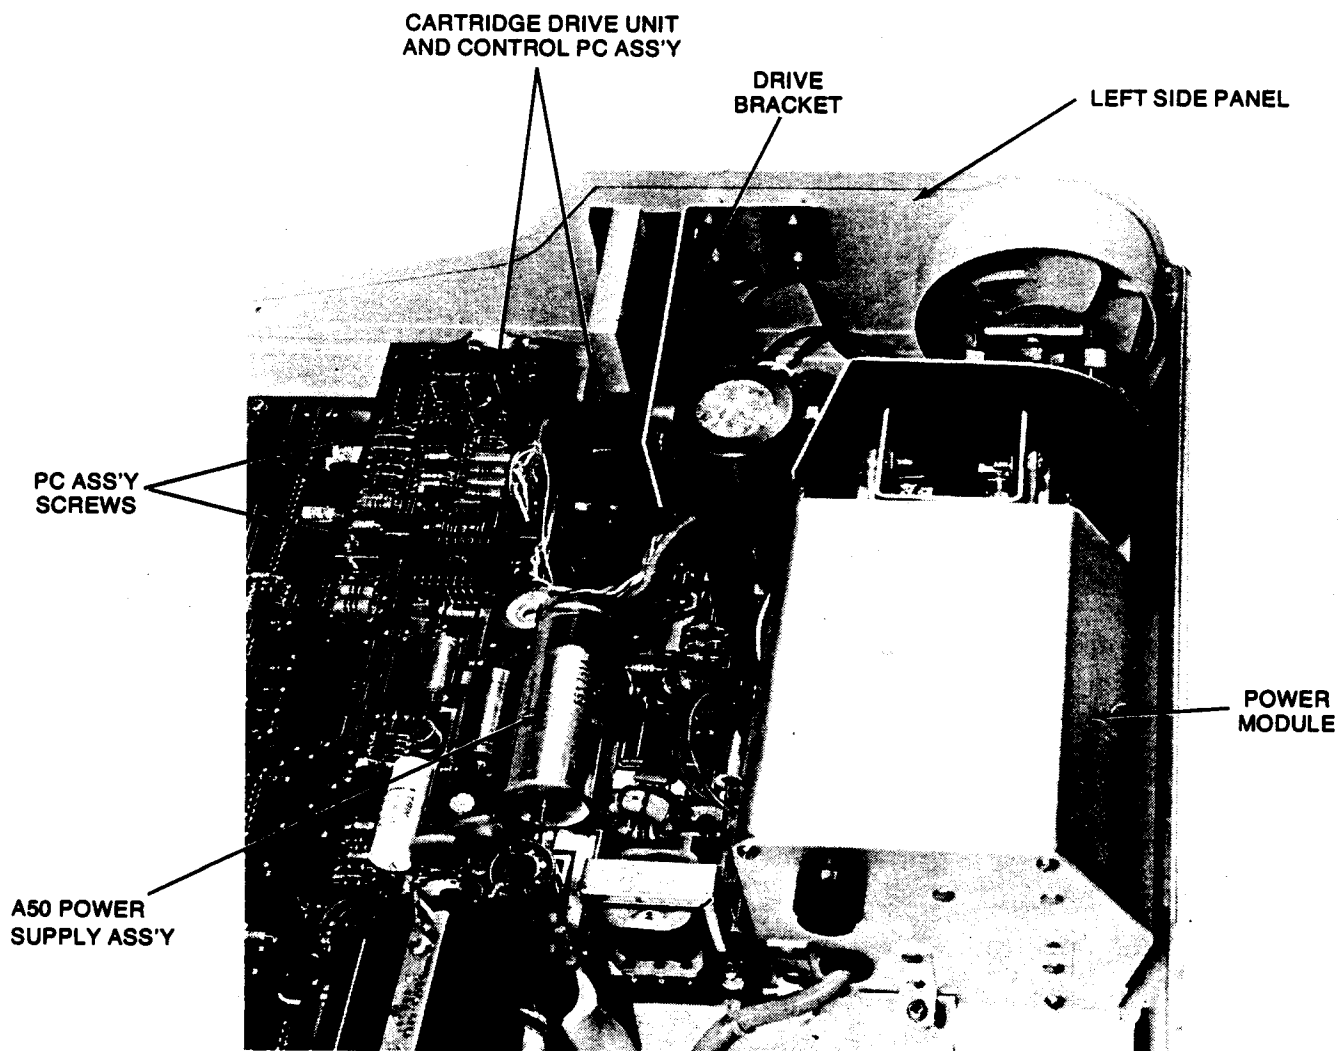

Figure 2-6. Cartridge Drive Unit and Power Module
- First remove the 2 screws that hold the PC assembly in place (see Figure 2-6).
The primary power module shown in Figure 2-6 is removed by removing the 5 screws that hold the module to the bottom cover. Disconnect the module connector and remove the module.